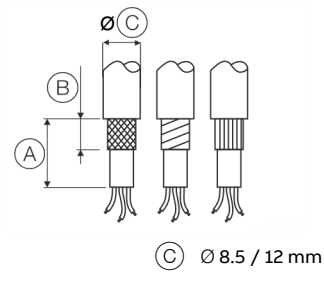

Figure 1: Stripping the connection cables
2. Strip the cable in accordance with **Figure 1**.